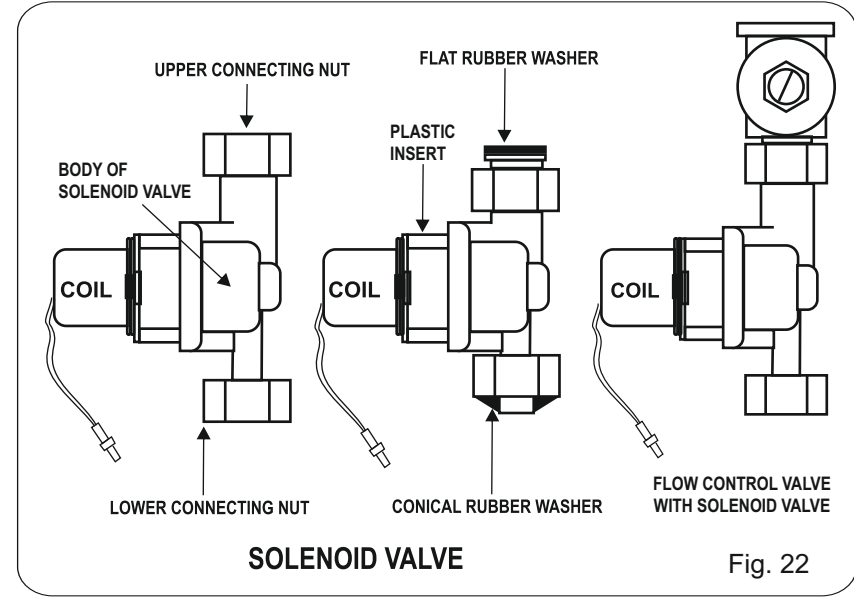

Fig. 22
2. Loosen the upper and lower connecting nuts to remove the solenoid valve from the box. Push the valve upwards to bring the lower end of the valve out of the water discharge outlet and then take out the valve gently. Take care that the flat and conical rubber washers do not fall off (Refer Fig. 22).